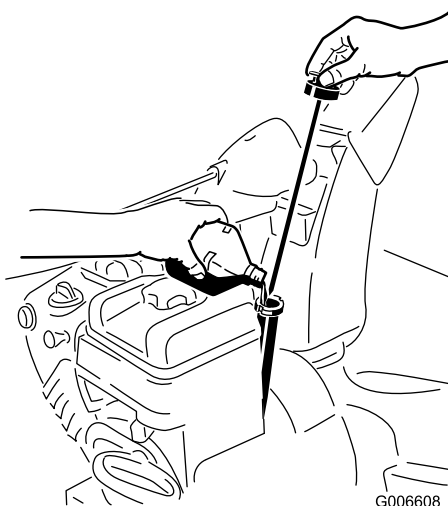

Figure 12
1. Remove the dipstick and **slowly** pour oil into the oil fill tube to raise the oil level to the Full mark on the dipstick. **Do not overfill.**(Figure 12).